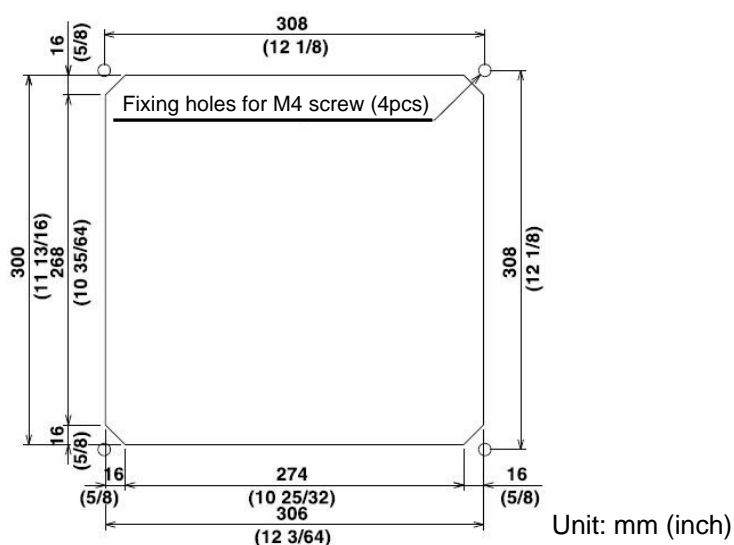

Fig. 5.5 Work of flush-mount installation hole
- (1) Make a square hole (308mm x 308mm) at the location to be installed. (See Fig. 5.5.)
- (2) Turn counter-clockwise the knob bolt fixing the display unit to the mounting bracket to loosen it, push the unit to the left side and pull the unit upward. The mounting bracket and knob bolt are no longer used.
- (3) Remove four plastic screw covers, which are fitted on each corner of the display front face.
- (4) Confirm that the unit matches with the square holes. If not matched, correct the square hole.
- (5) Connect the connectors for power and transducer to the unit respectively.
- (6) Install the display unit in the installing location (square hole) and fix it with four 4mm tapping screws (or M4 pan-head). (Prepare 4mm screws suitable for thickness of installing location.)
- (7) Refit the coverings removed in step (3).